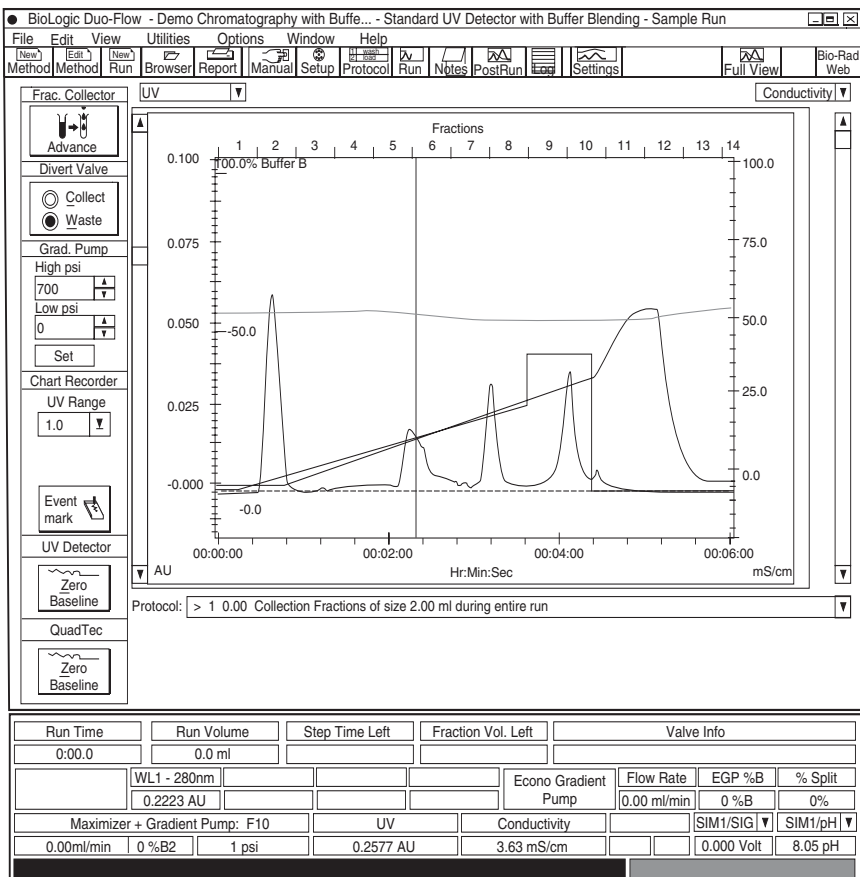

Fig. 11. Run screen (UV detector and conductivity traces)
- c. When you have finished programming the method protocol, press the toolbar button RUN. A dialog box will ask you to name the run. Accept the default Run 1 and click the OK button. You will now see the Run screen (see Figures 11 and 12).